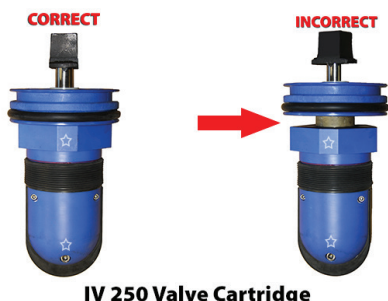

FIGURE 46
3.0.5) The Insta-Valve 250 valve cartridge consists of top and bottom sections. The top and bottom sections must be firmly tightened together. Prior to removing the operating nut, hold the base of the valve cartridge and turn the valve stem firmly in the opening direction with a pipe wrench or valve key (see Figure 46).